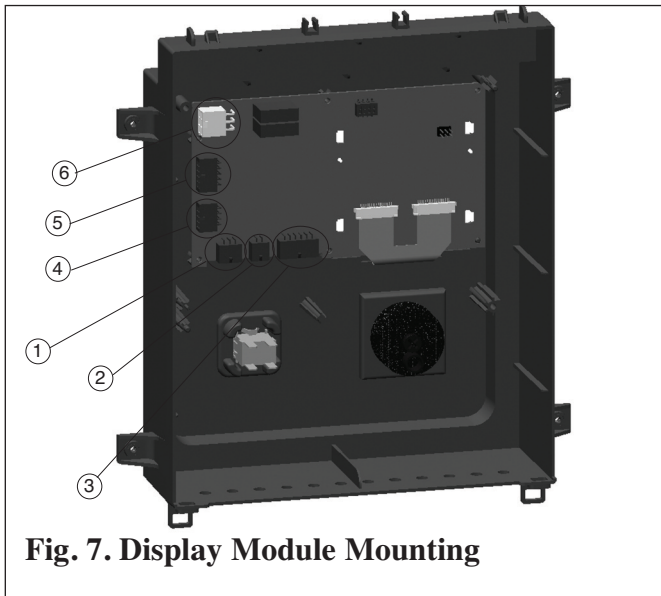

Fig. 7. Display Module Mounting
8. Remove Molex connectors 1 thru 3 from the Display Module as shown in Fig. 7.
10. Remove Molex connectors 4 thru 6 from the display module as shown in Fig. 7.
12. Reconnect Molex connectors 4 thru 6 to the new display module as shown in Fig. 7. Connectors are designed to fit only into its respective mating connector.